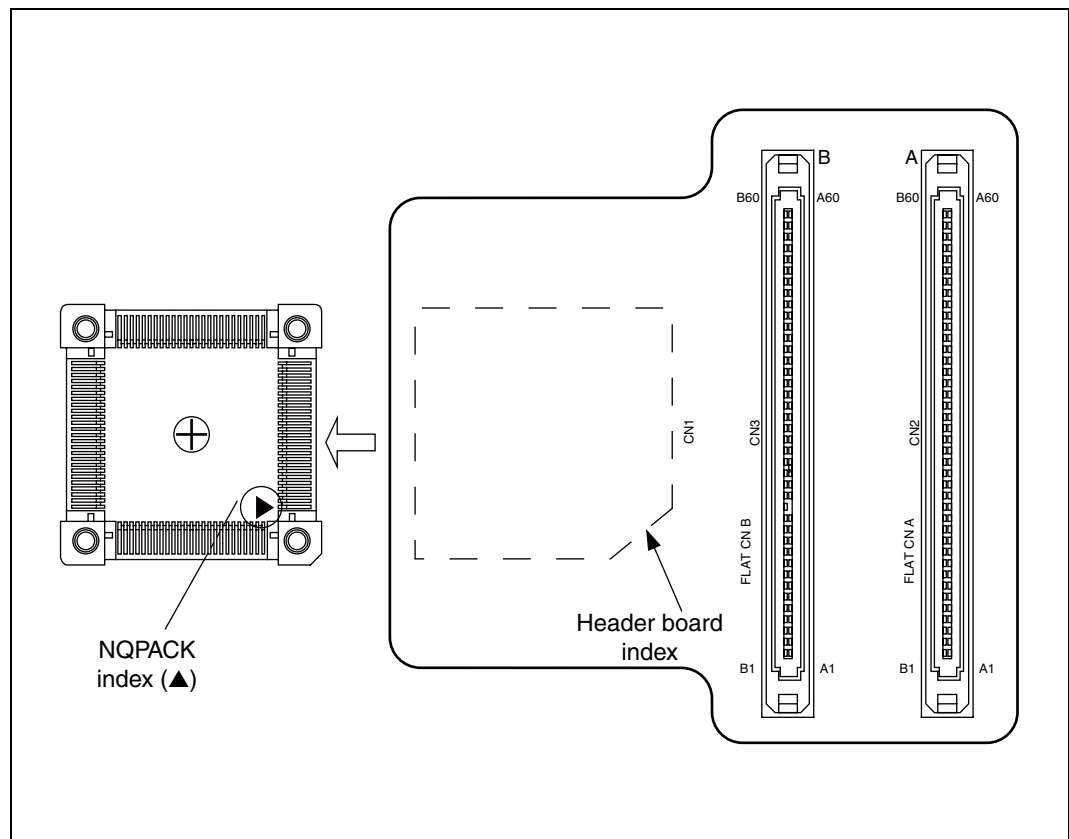

Figure 3 Index position
1. To connect the header board to the user system, align pin 1 indicated by the index mark (▲) on the NQPACK mounted on the user system with the index mark on the header board and then insert the header board (see Figure 3).